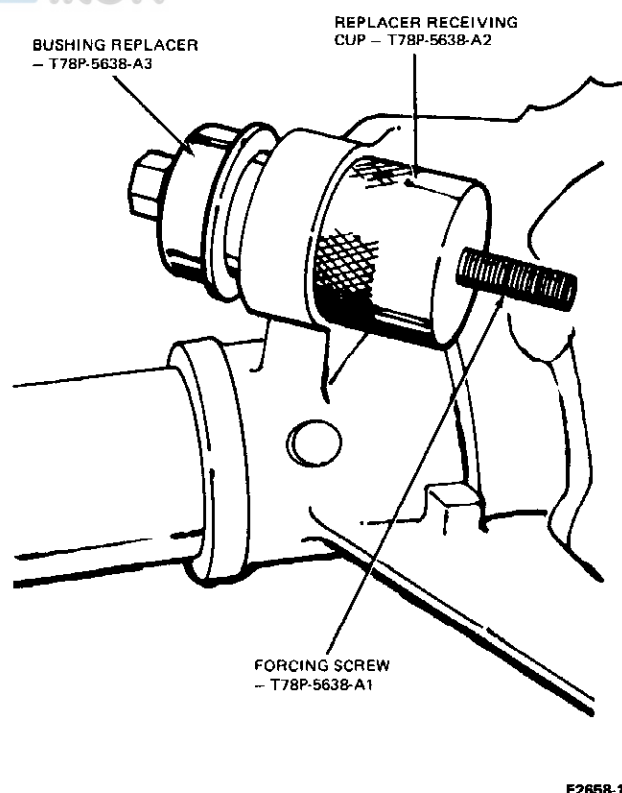

FIG. 13 Bushing Installation
4. Using the installer tool as shown in Fig. 13, install the bushing assembly into the bushing ear of the rear axle.